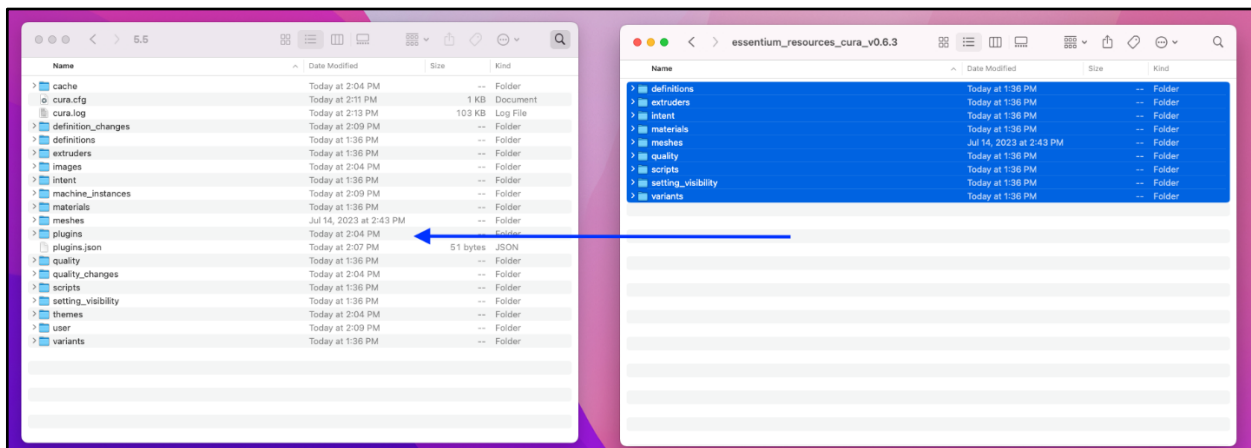

Figure 3: Copying and Pasting the Essentium Resource Files
(See Figure 3). This folder will include the following subfolders:
7. Copy and paste the Essentium resources files into the Cura Configuration folder “5.6” (See Figure 3). This folder will include the following subfolders: